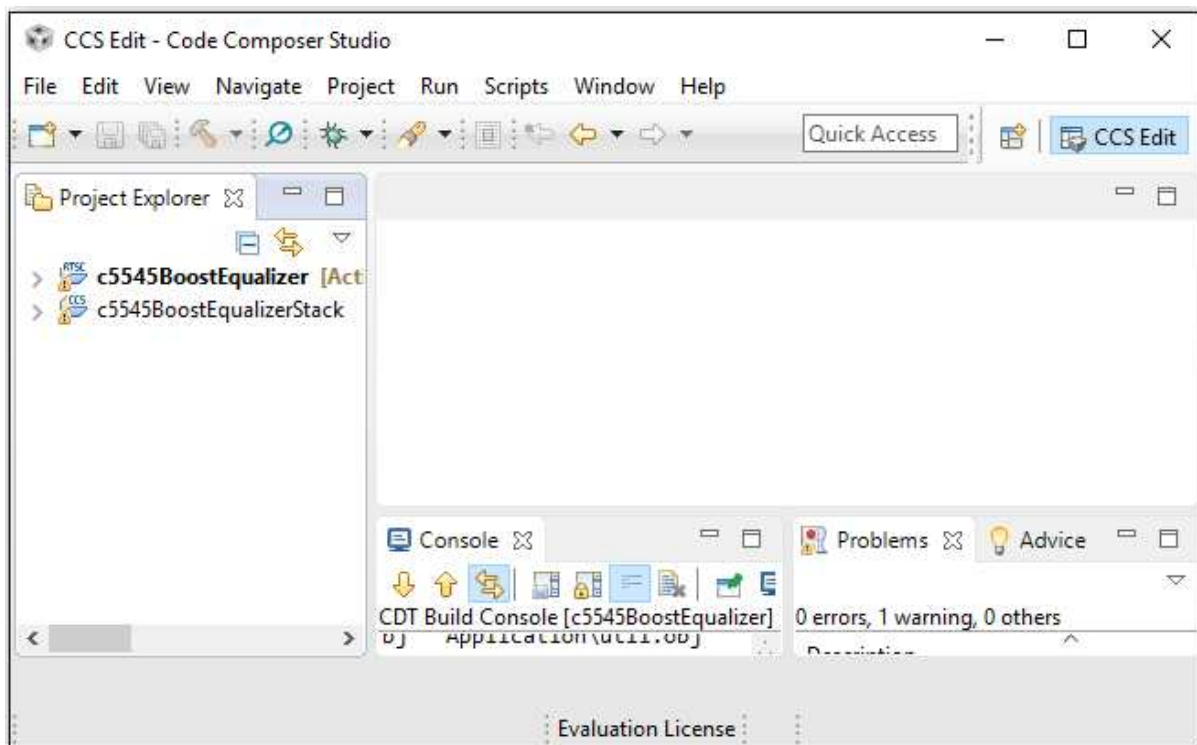

Figure 9. Project Explorer Window
6. Select all the projects and click on the 'Finish' button. Projects should appear in the 'Project Explorer' window as shown in Figure 9.